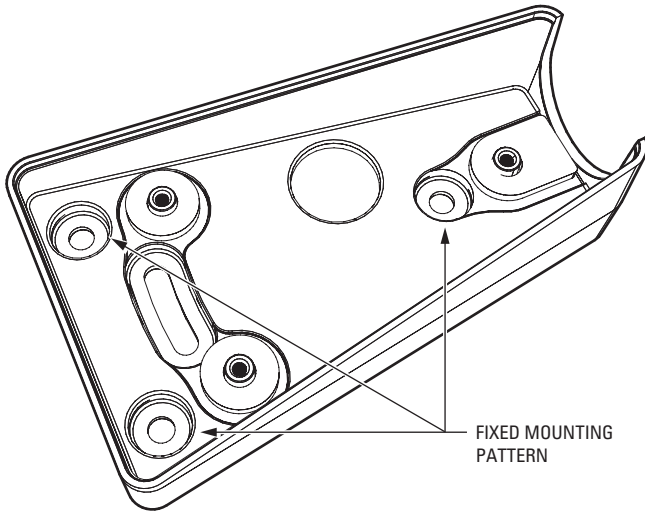
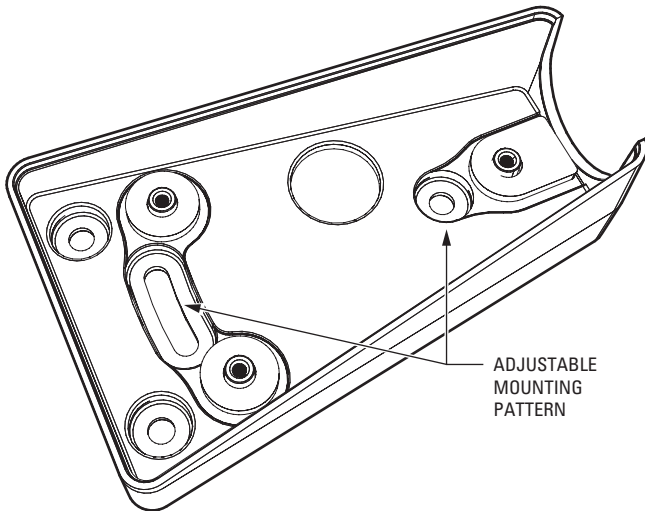

Figure 3. Fixed Mounting Pattern
Figure 4. Adjustable Mounting Pattern
4. Select a fixed or adjustable mounting pattern (refer to Figure 3 and Figure 4). Using the mounting plate as a template, mark the wire feedthrough and fastener hole positions on the mounting surface. Prepare the holes for the installation.